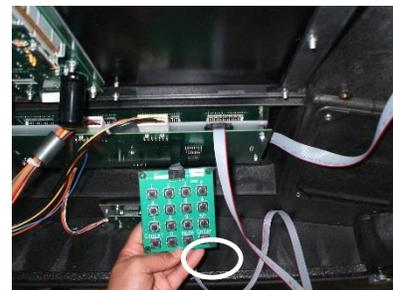

Figure C.1 - Keypad Receptacle
2. Locate the keyboard receptacle located on the Product Select Backlight Auxiliary Display Board (J4), which is located on the backside of side 1 electronic door as shown in Figure C.1.